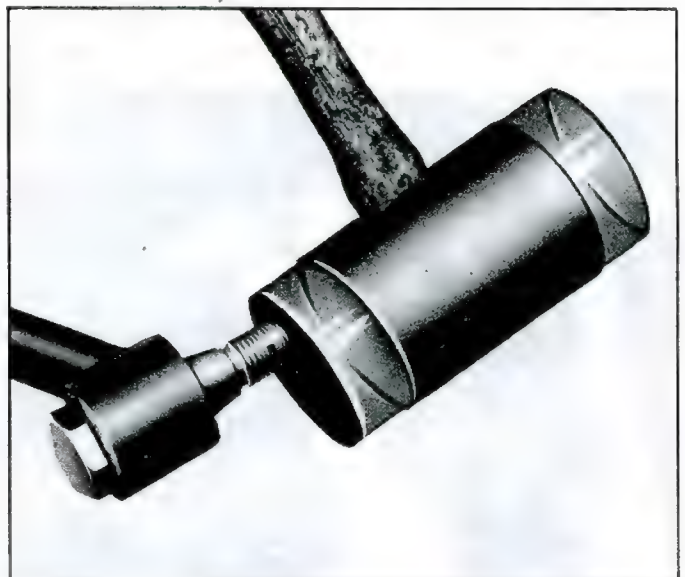

Fig. 25—Removing Pivot Bolt
1. Use soft hammer to drive bolt out of bushing (fig. 25).